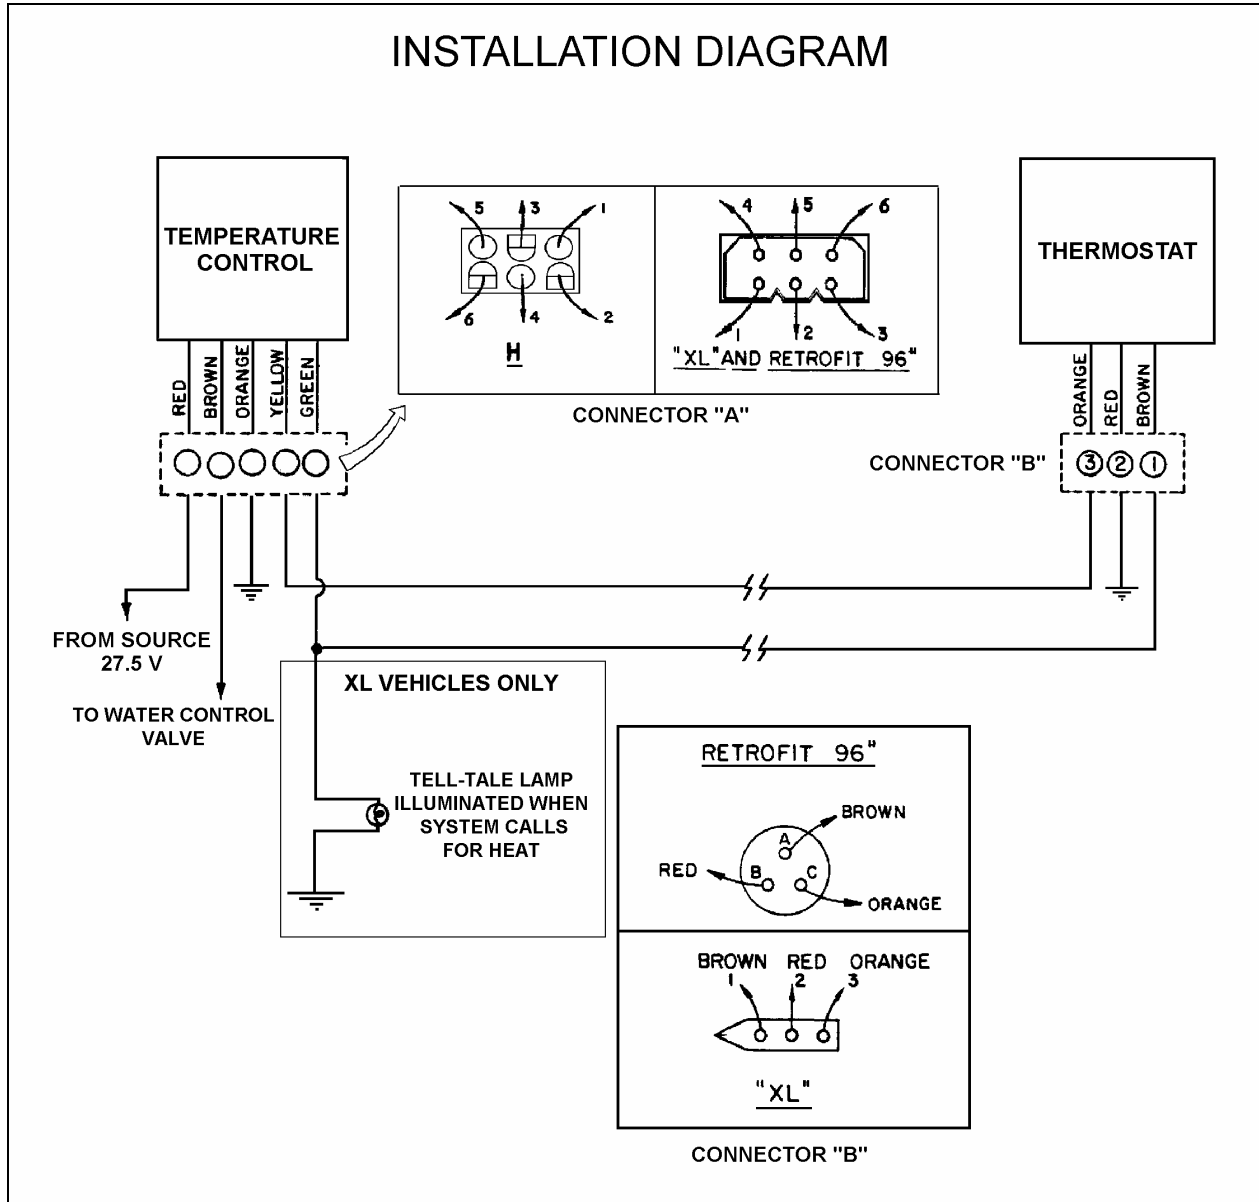

FIGURE 1
2. Refer to INSTALLATION DIAGRAM for proper identification of components and connectors (Fig. 1).
5. If heating control module replacement is necessary, ensure that wire position on harness connector corresponds to figure 1.